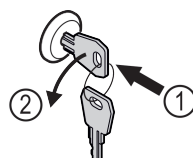

Fig. 162
- Insert the key. Fig. 162 (1)
- Turn the key anticlockwise by 90°. Fig. 162 (2)